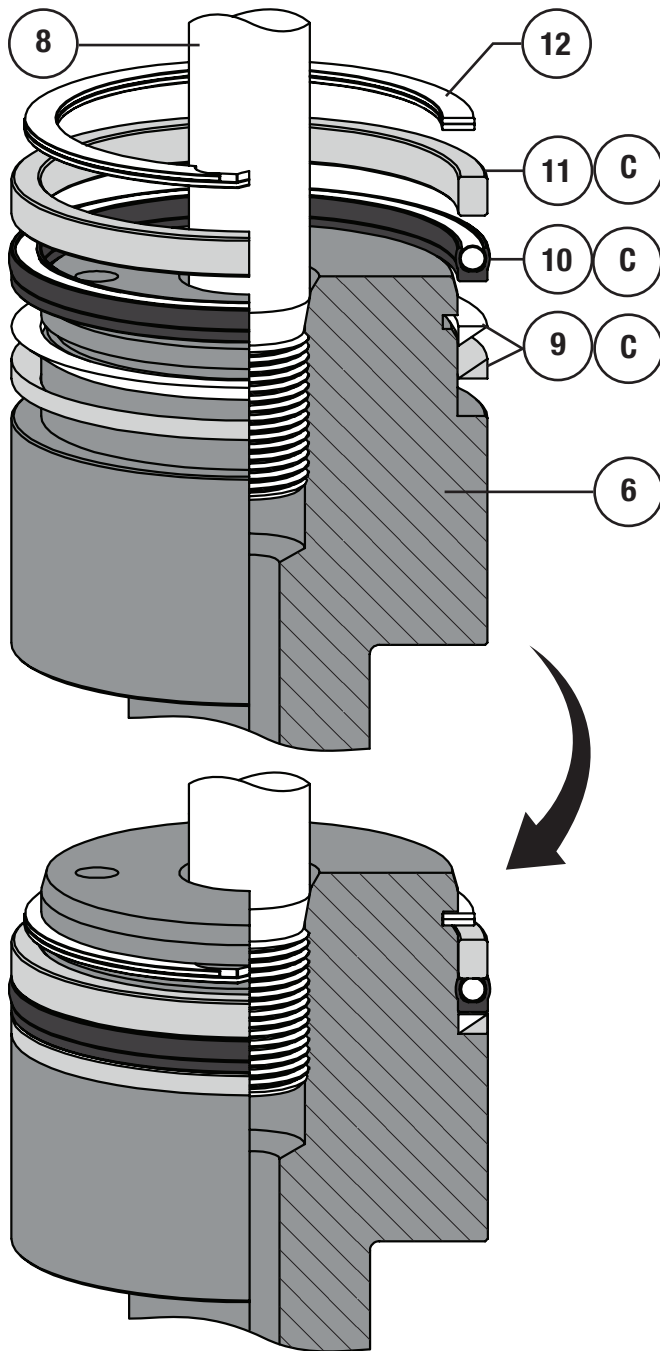

Figure 17 Three-Piece Plug Seal With Anti-Extrusion Rings
- 1** Apply Lubriplate® No. 105 (Key C) to the surface of the anti-extrusion rings (Key 9) and install them as shown in Figure 17. **NOTE:** Not all assemblies use anti-extrusion rings.
- 2** Install the seal ring (Key 10) onto the valve plug (Key 6), refer to Figure 17 for proper seal ring orientation.